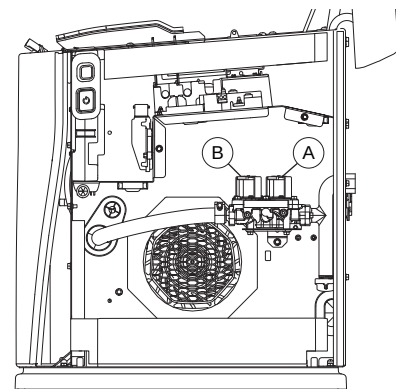

Figure 10-18. Fuel Shut Off Valve 1 (SOV1) and Fuel Shut Off Valve 2 (SOV2)
- c. See Figure 10-18. If only the valve CLOSEST to the fuel inlet pipe (A) clicked, proceed to Step 3.